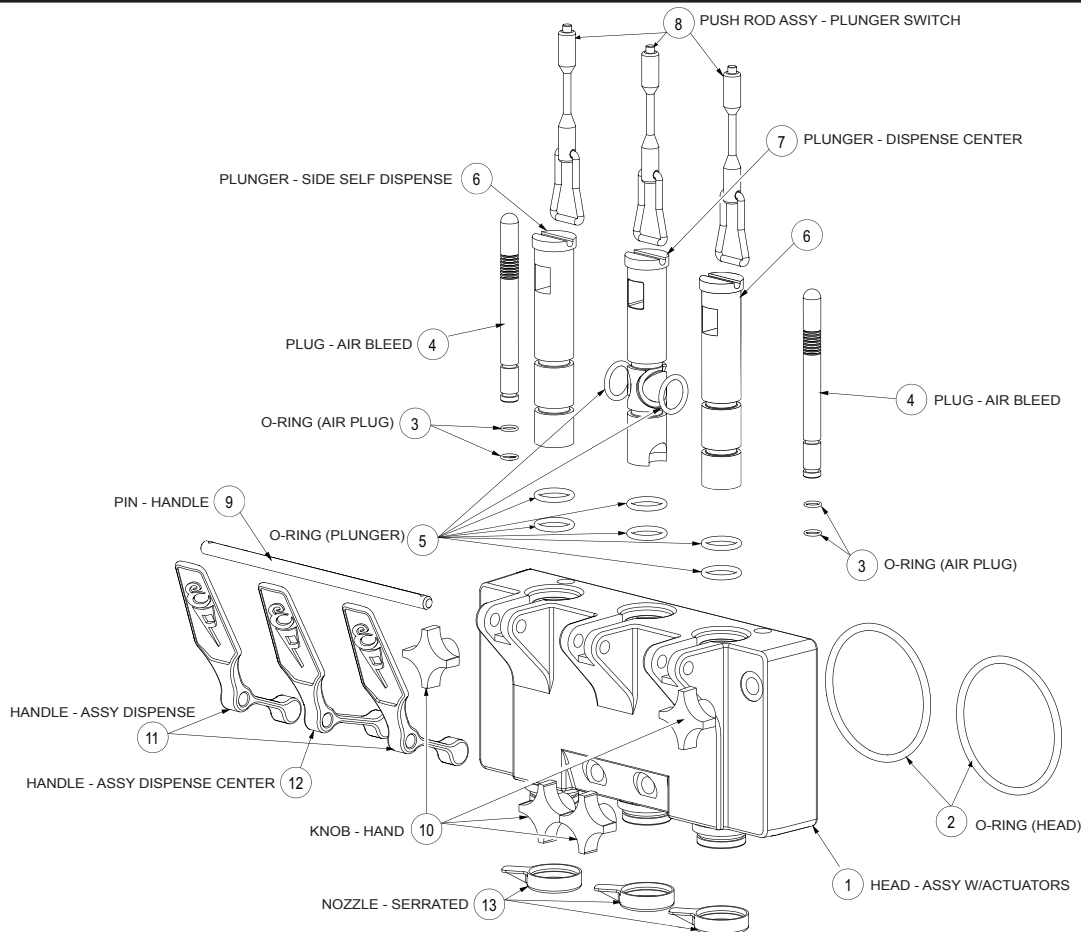

Figure 8-4 Head Assembly
5. (Refer to figure 8-4.) Install and then lubricate the O-rings (5) on the plungers (4&8) and insert plunger halfway into dispensing head (1).
6. Install and then lubricate the 4-inch head O-rings (3).
7. Position the handle (10&12) in the plungers (6&7) and dispensing head (1). Lock in place with the handle pin (9).
8. Install and lubricate O-rings (3) on the air bleed plug (4). Insert plug in the dispensing head (1) assembly.